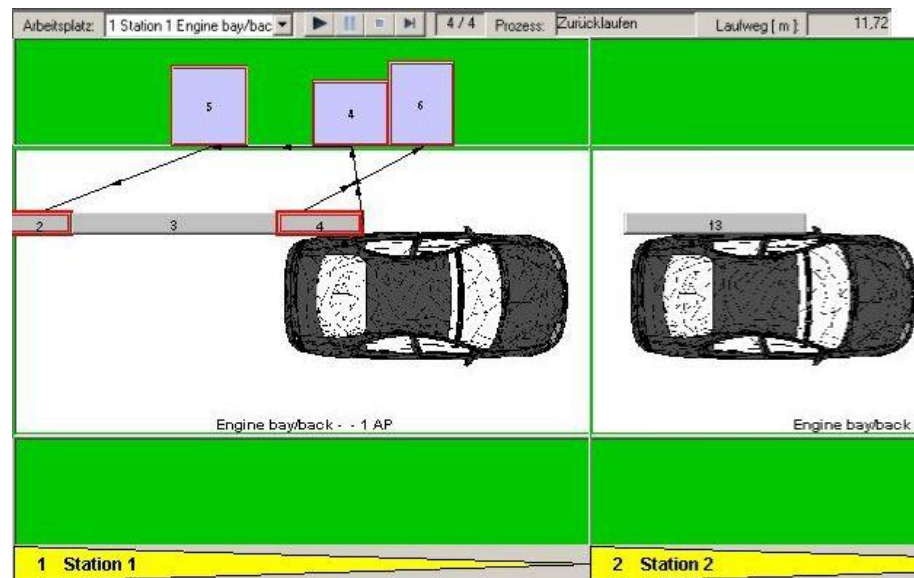

Figure 250: Example for Simulating or Showing Walkways
- An employee fetches the needed parts for each process in work from the parts bin separately. *Please refer to the Figure 250.*